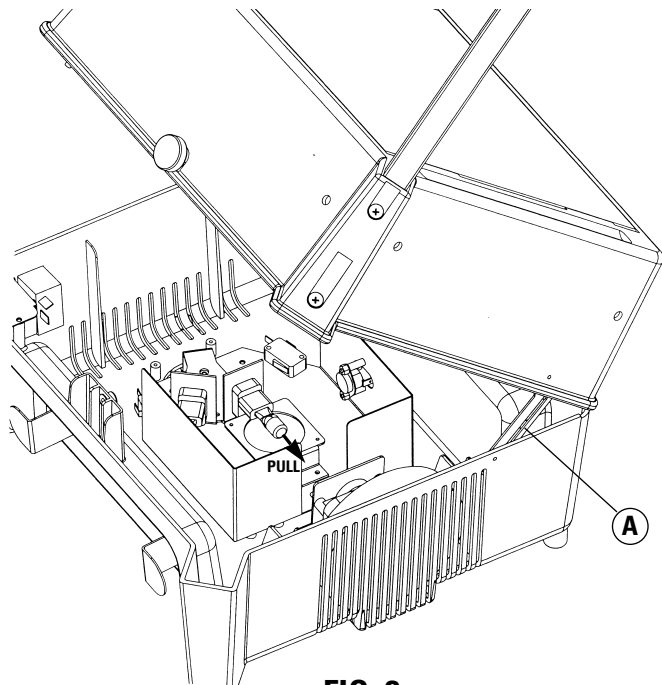

FIG. 2
3. Remove the cover lock screw on the side of the unit and lift up the cover to expose the inside of the projector. The bracket located near the cooling fan will hold the lid open (A) (see Fig.2).
4. Hold bulb by the ceramic base and pull it out of the socket (see Fig. 2).